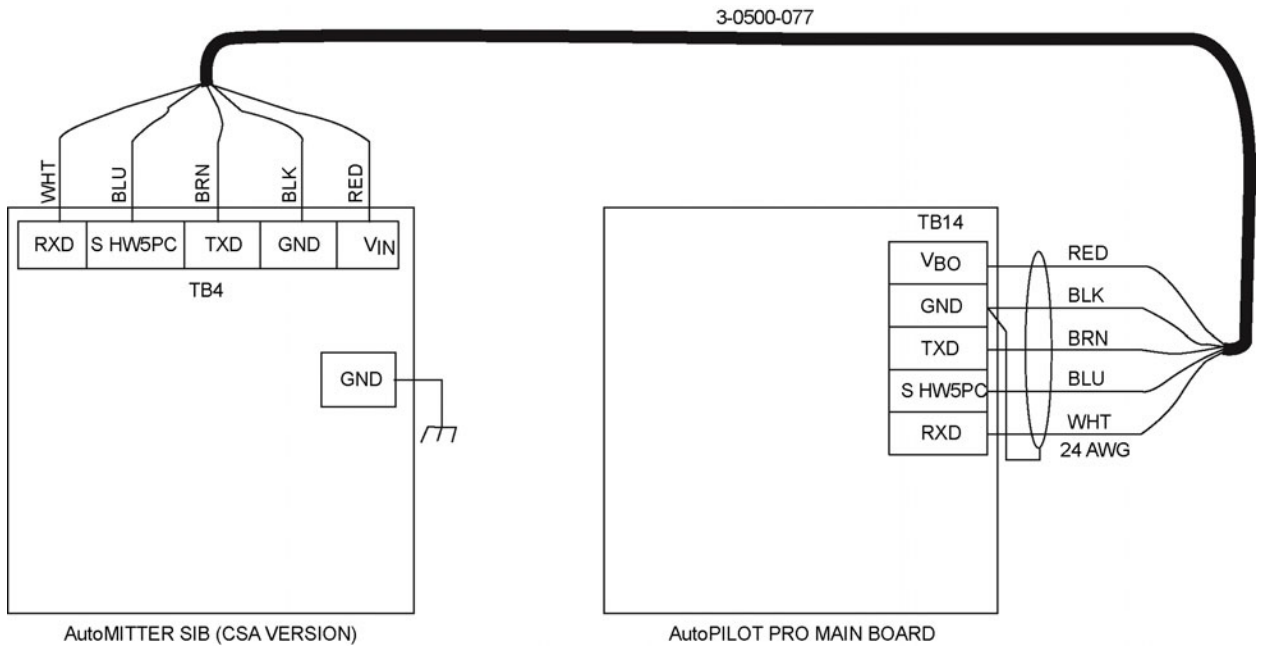

Figure 6-3. SIB to main board wiring, CSA
- TB14 on the main board is the SIB connector. Using the SIB cable, connect TB14 to TB4 on the SIB as shown in Figure 6-3.